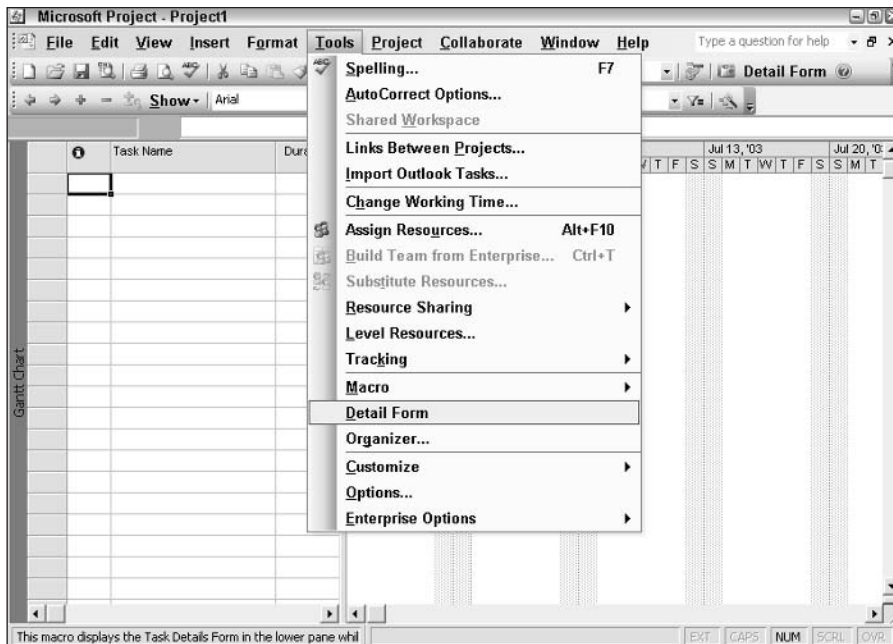

Figure 24-15: The command after renaming it and assigning it a hotkey.
8. Press **Enter**. The pop-up menu disappears, and Project renames the menu command. As Figure 24-15 shows, the command includes your hotkey if you added an ampersand.